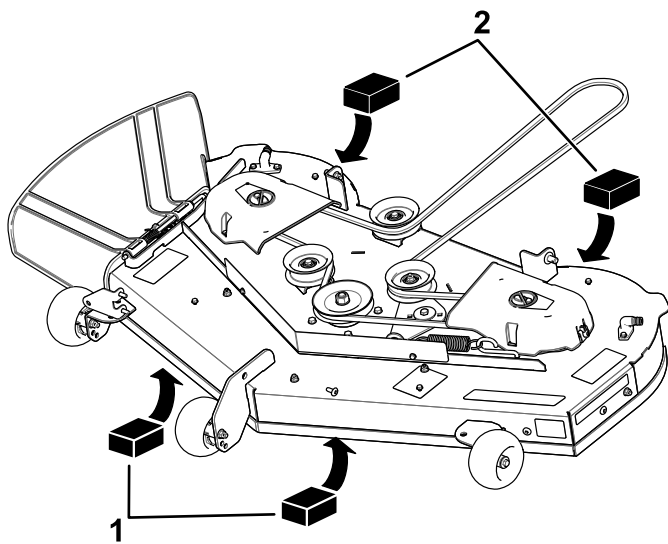

Figure 66
4. Place 2 blocks, each having a thickness of 6.6 cm (2-5/8 inches), under each side of the front edge of the deck but not under the anti-scalp roller brackets (Figure 65 or Figure 66).
5. Place 2 blocks, each having a thickness of 7.3 cm (2-7/8 inches), under the rear edge of the cutting deck skirt, 1 on each side of the cutting deck (Figure 65 or Figure 66).